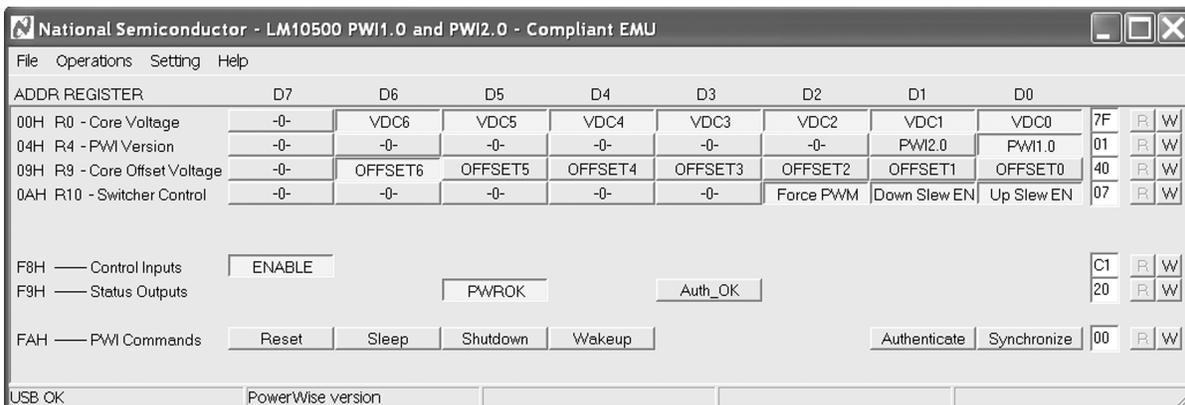

Figure 6. The LM10500 GUI With Default Register Values And Status (LM10500SQ-0.8)
4. CTRL+R, or from the menu 'Operations', select 'Read all', the default register values will be read from the LM10500 and shown in the GUI, as in Figure 6. If the default register setting does not show, press reset button on the USB2PWI board and repeat this step.